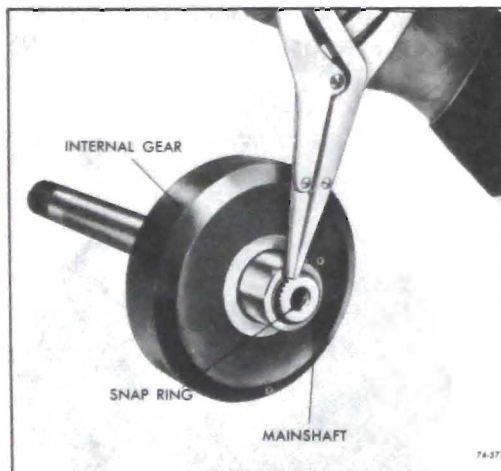

Figure 76-584
2. Install internal gear retaining snap ring. See Figure 76-584.